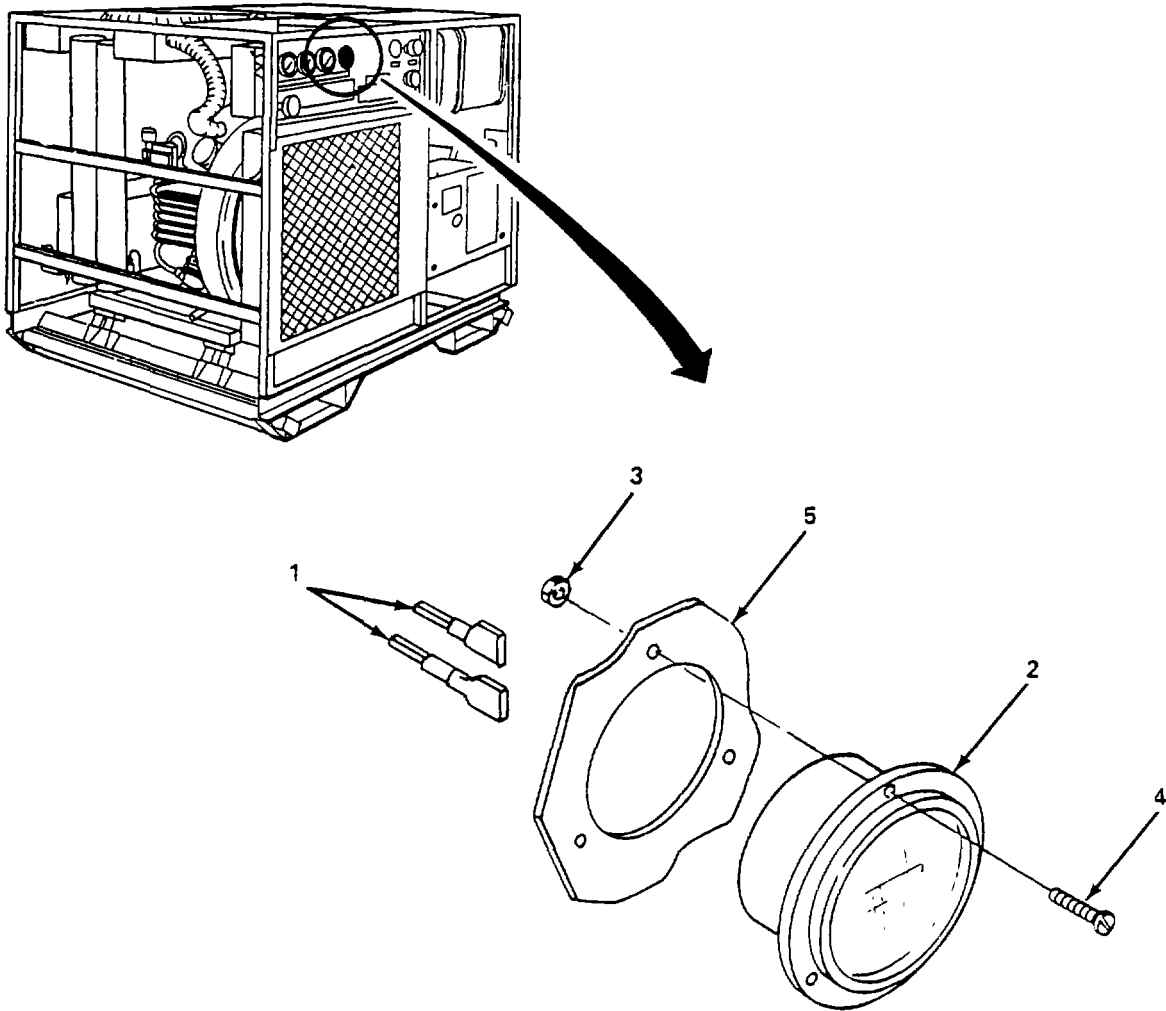

Figure 4-13. Hourmeter, Replace.
(4) Hourmeter. (figure 4-13)
- (a) Tag and disconnect four wire (1) from meter (2).
- (b) Remove three nuts (3) and screws (4).
- (c) Remove meter (2) from control panel (5).
- (d) Install meter (2) and secure with three screws (4) and nuts (3).
- (e) Connect four wires (1) to meter (2).